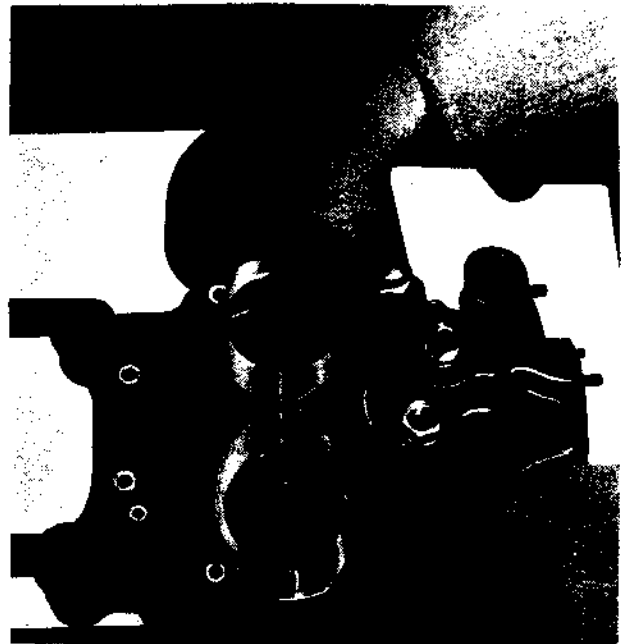

Figure 23. Installing Crankcase Cover to Crankcase.
(4) Remove screw driver or wedge from cam gear and check backlash of gears.
(5) Safety wire cap screws on both gears. Care must be taken to press wire tightly against the gear body to avoid a possibility of interference with the studs, if utilized, of the oil pump cover.
(6) Place crankcase cover gasket over end of crankcase and mounting studs. Assemble crankcase cover assembly over gasket and studs (Fig. 23).
(7) Rotate engine stand so that crankshaft is horizontal. Install washers and nuts to studs. Tighten nuts securely and install palnuts.